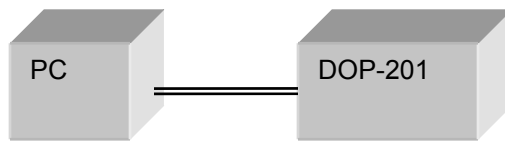

Figure 9 Direct connection: DOP-201 to PC
- a) **Static IP:** the administrator assigns the instrument a fixed IP address. In this mode the instrument can be directly connected to the control PC, as shown in Figure 9, or can be connected through a router. For a direct connection (Figure 9), a cross-linked network cable must be used. For a connection to a router, a standard straight-linked network cable would be used.